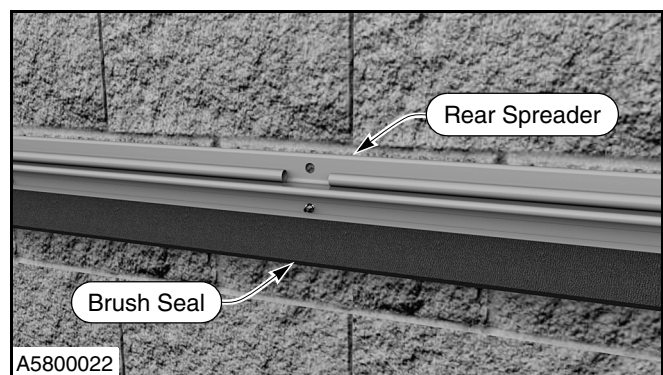

Figure 22
1. Inspect the brush seal for wear or damage. Replace as necessary. (See Figure 22.)